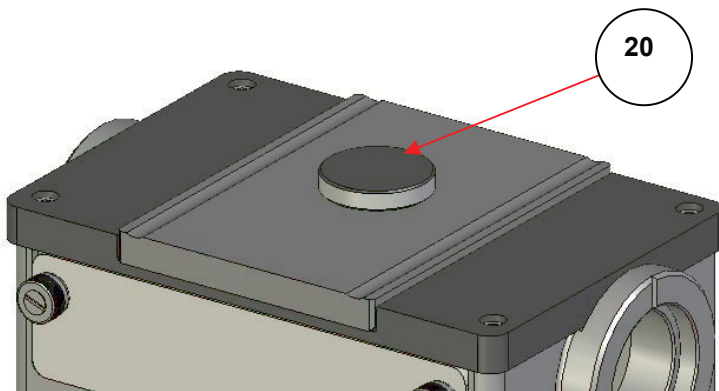

Figure 16. As Figure 15 but with Volatiles Cover (20) over the Recessed ZnSe ATR Top Plate Assembly
assembly surface. If the liquid is fairly volatile in nature, then the volatiles cover P/N GS10503 supplied (20) can be placed over the liquid to contain it during the analysis. (See Figure 16.)